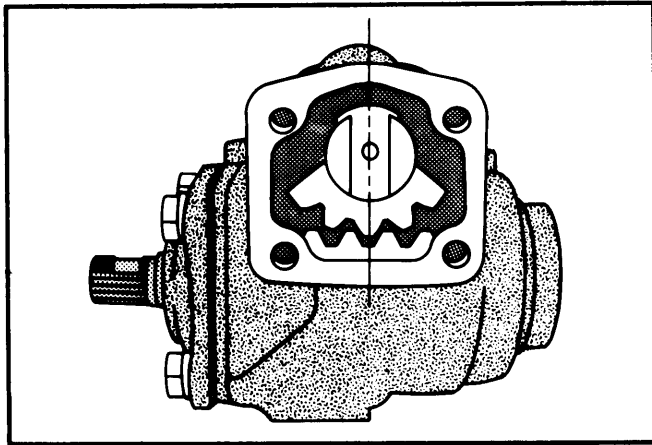

Fig. 2 Aligning Sector Gear & Rack
2) Insert sector shaft into gear housing, using care not to damage oil seal. Ensure center of sector gear is aligned with center of worm gear. See Fig. 2. Insert adjusting screw into slot in end of sector shaft. Check end clearance as illustrated and add appropriate shim to bring clearance within 0-.004" (0-.1 mm). Place side cover and gasket over adjusting screw and turn adjusting screw until cover is in place, install attaching bolts.